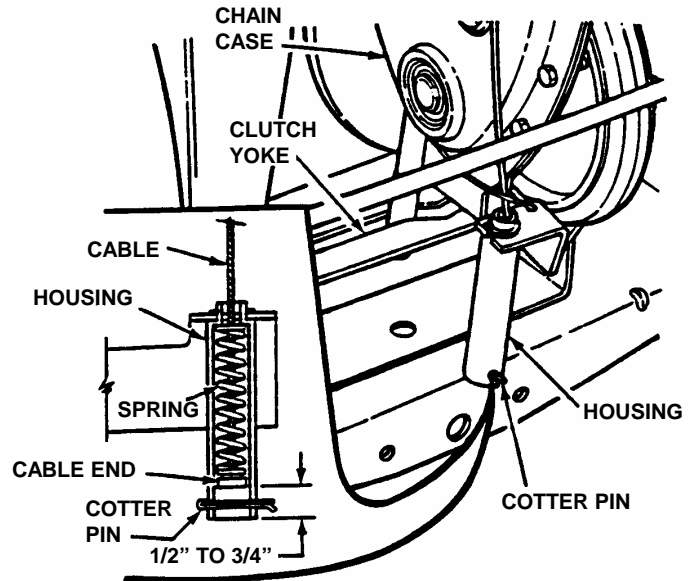
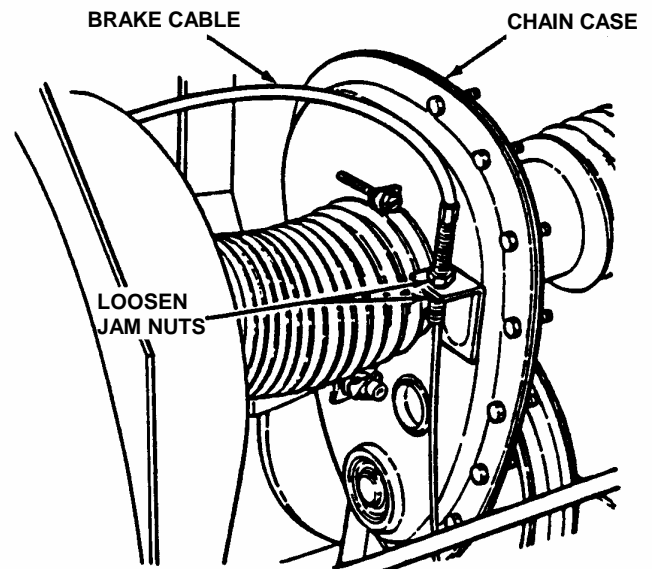

FIGURE 4.8
FIGURE 4.9
5. Measure the distance between end of clutch/brake cable and bottom of housing. Measurement should be no less than 1/2" and no greater than 3/4". See Figure 4.8.
6. If measurement is less than 1/2" or greater than 3/4", loosen the two jam-nuts. See Figure 4.9. Hold the clutch/brake cable to the chain case bracket.
7. Adjust cable up or down using the jam-nuts to obtain a distance of 1/2" to 3/4" between end of clutch/brake cable (adjustment shown in inset of Figure 4.8) and bottom of housing. See Figure 4.9.
5. Move transmission shift lever to the neutral (N) position.
6. Rotate clutch yoke (clutch yoke shown in Figure 4.8) out with your hand and work belt between drive disc and rubber driven disc.